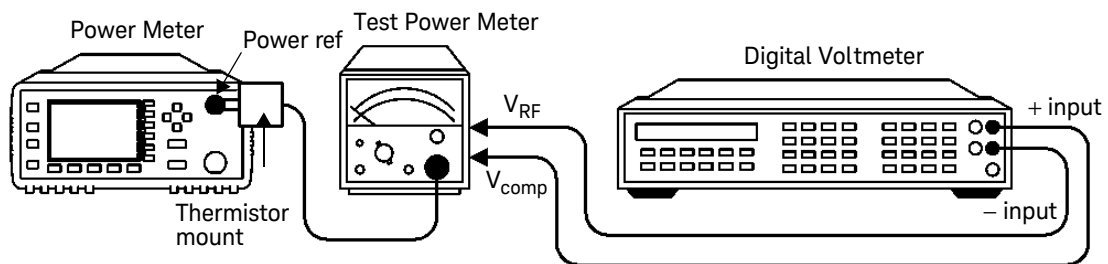

Figure 2-10 Output Standing Wave Ratio Test Setup
- 9 Connect the equipment as shown in Figure 2-10 ensuring that the DVM input leads are isolated from chassis ground.
- Connect the equipment as shown in Figure 2-10 ensuring that the DVM input leads are isolated from chassis ground.